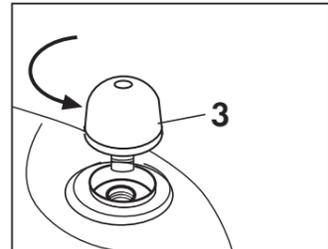

Fig. 1
- unscrew the water full cap(3); Fig. 1